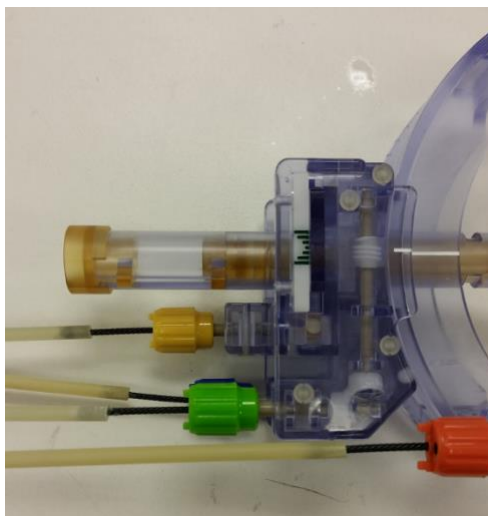

Figure 11: Attachment to Thumb Wheels
2. Attach the distal ends (wings) of the Thumb Wheel Extension Set to the matching-colored thumb wheels on the SMARTFrame XG. See Figure 11. You may need to rotate the Thumb Wheel Extension Set thumb wheels to properly orient the wings into the SMARTFrame thumb wheels. The wings should slide to the bottom of the thumb wheels and seat into place.